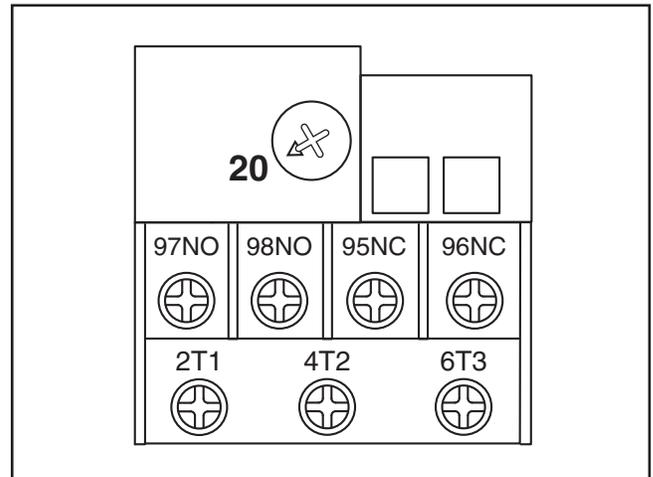

Figure 3. 110V thermal overload relay set at 10 amps.
3. Verify that the amperage setting on the thermal overload relay is set at 20 amps (see **Figure 3**).